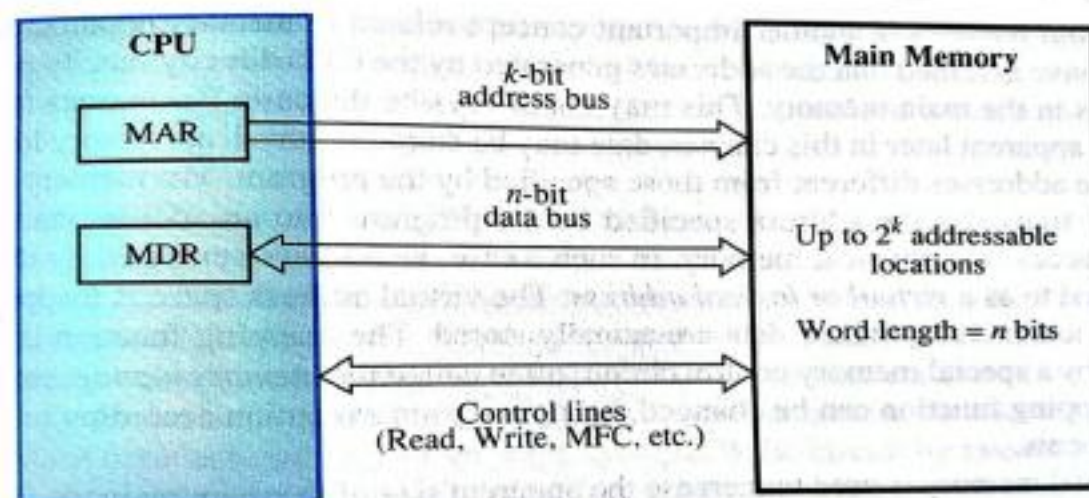

FIGURE 5.2
- As shown in the figure 5.2, if MAR is K bits long and MDR is 'n' bits long, then the Main Memory unit may contain up to 2^k addressable locations and each location will be 'n' bits wide, while the word length is equal to 'n' bits.